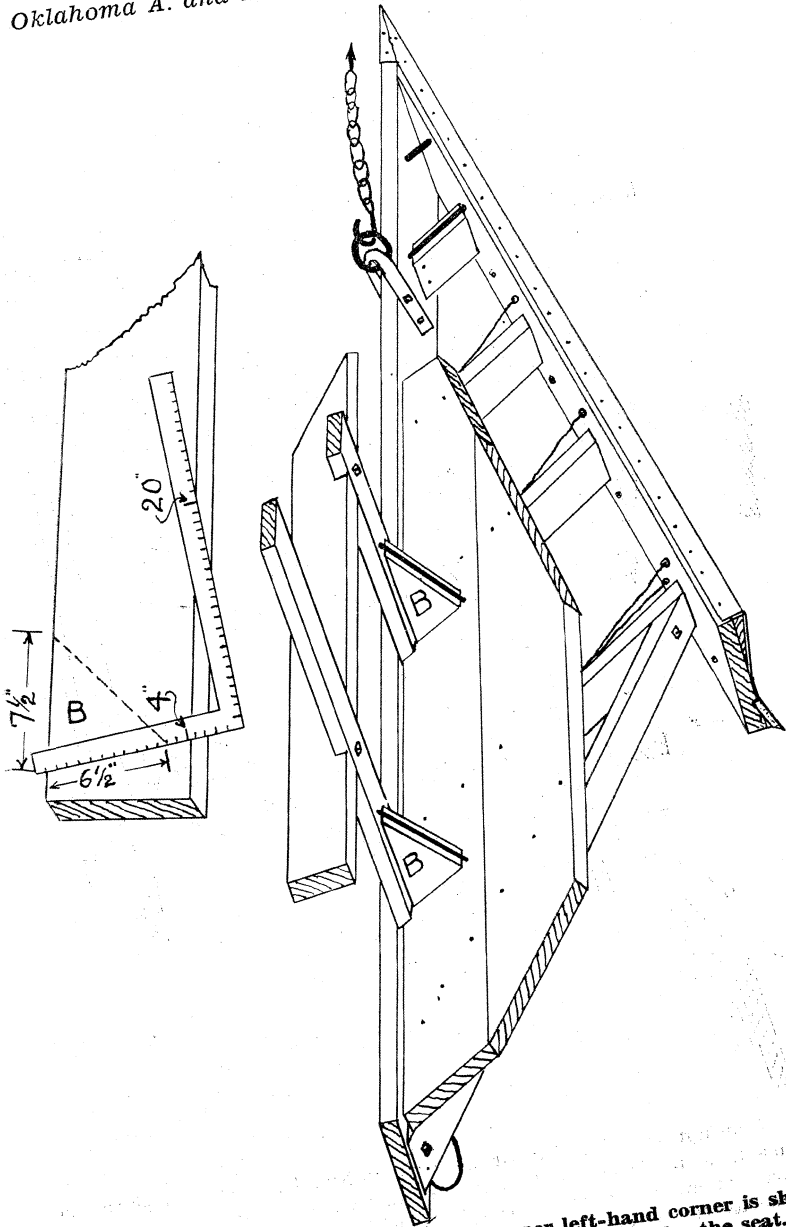

Fig. 6.—The completed terracer. In the upper left-hand corner is shown a detail drawing of how to cut the triangular braces for the seat.
**Step 11.** Figs. 5 and 6 show the three in one part of the terracer. This is made of two pieces of 2"x4" boards bolted vertically to the landside on which is a 2"x8" sled runner 16 inches above the landside. This serves for transporting the terracer and also serves as a seat. The 2"x4" near the rear end projects four feet above the landside and serves as a lever to raise the moldboard up when too much dirt is being carried by it. The sled runner or seat is fastened to the 2"x4"'s by two ½-inch bolts eight inches long. It will be necessary to cut notches in the 2"x12" floor piece where the 2"x4"'s are bolted on to the landside. The braces shown at "B," Fig. 6, are sawed from a piece of 2"x8" and are fastened on by ½-inch bolts 14 inches long. It will be necessary to bore these holes before the sled runner or seat is fastened on. It is also necessary that the holes be bored through the 2"x12" before it is nailed because the upright 2"x4" will be in the way of boring the holes at the proper angle. The sled runner is about five feet long. The 2"x4" uprights are placed just back of the braces as shown in Fig. 5 so the back end of the runner will serve as a seat and be just in front of the stinger.
**Step 12.** Nail a 2"x12" plank on top of the braces against the landside, then another piece of 2"x12" nailed adjacent to it will serve as a floor. (See Fig. 6.) The floor should not be solid all over the top of the terracer because there should be at least 10 or 12 inches of open space next to the moldboard so dirt can fall through, rather than pile up, in case the moldboard does not scour well. Under ordinary conditions, the soil rolls forward and slips backward along the moldboard.